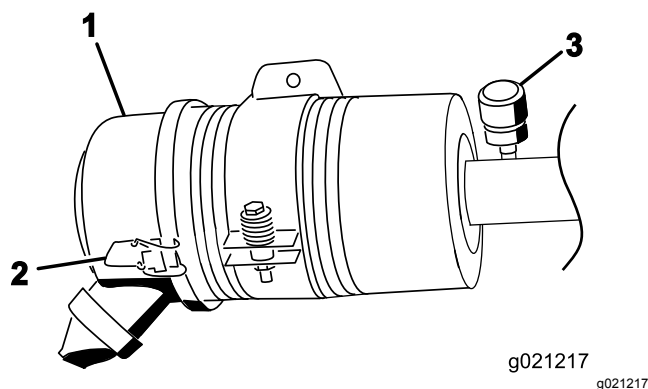

Figure 53
Service the air cleaner filter only when the service indicator (Figure 53) requires it. Changing the air filter before it is necessary only increases the chance of dirt entering the engine when the filter is removed.
1. Release the latches securing the air cleaner cover to the air cleaner body (Figure 53).